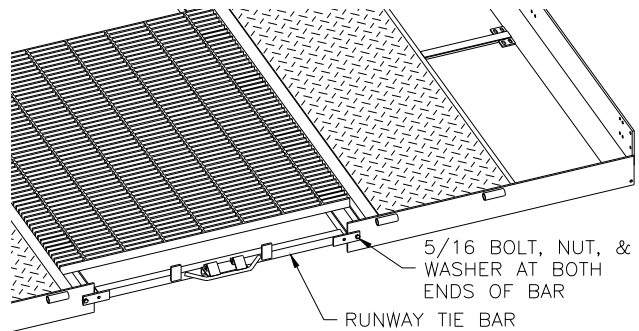

Fig 18 – Runway Tie Bar
30) * Push center grate back a few inches from the front of the runways and attach runway tie bar with one bolt and nut (see hardware list) at each end, Fig 18.